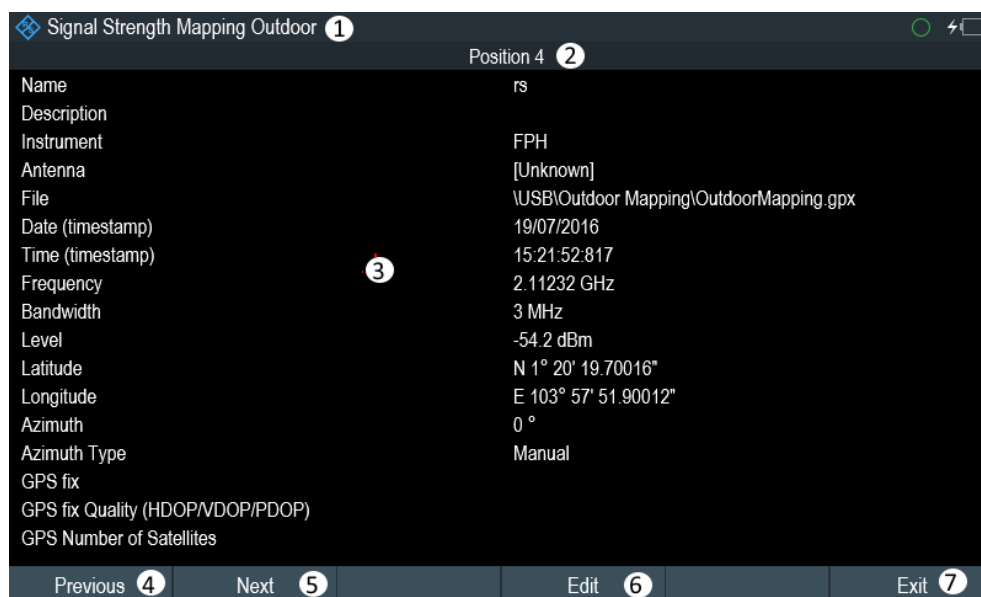

Figure 13-6: Complete geotag information dialog box
- 9 = Select "View" softkey to display complete information of the geotag, see Figure 13-6